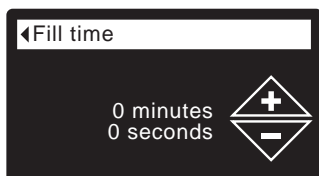

FIG. 80
- 8a. Fill time:** Press the UP (▲) or DOWN (▼) buttons to change the fill time. Hold the button down to rapidly advance. The fill time can be set from 0:00 to 99:59 minutes (See Figure 80).